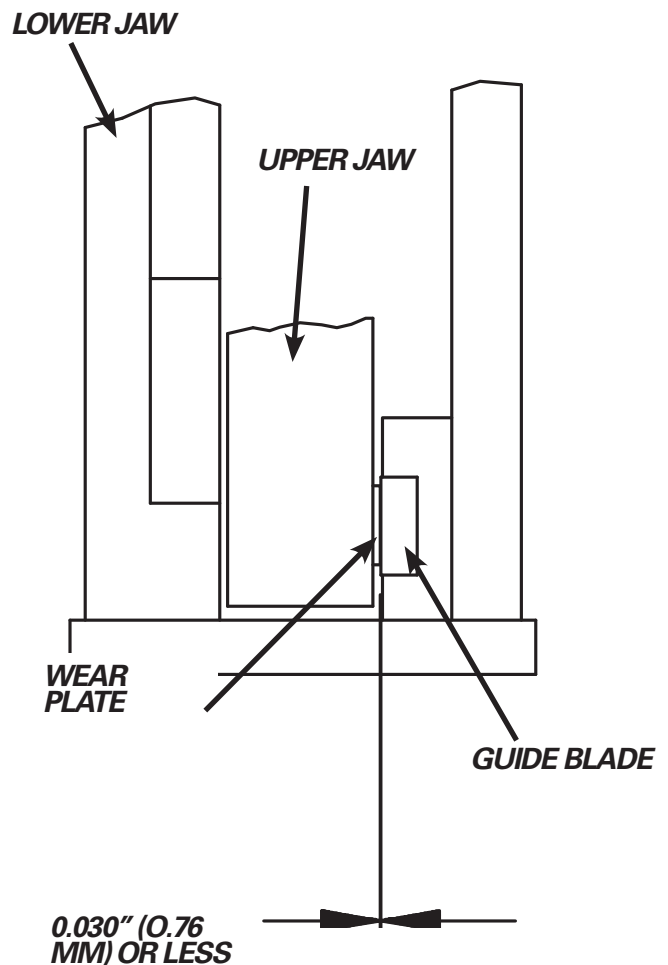

FIGURE 7-36
1. With the jaws partially closed so the front wear plate is beginning to bypass into the lower shear, check the gap between the front wear plate on the upper shear and the top edge of the guide blade. Cycle the upper jaw into the lower and check in several spots. Shim to the smallest gap. This gap should not exceed 0.030" (0.76 mm). See Figure 7-36.